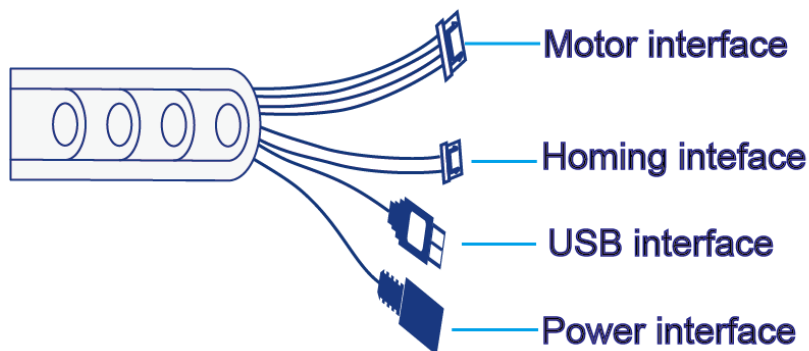

Figure 5.193 Interfaces on the other end of the wire set
Step 6 Connect the interfaces on the other end of the wire set to the power adaptor, USB interface of PC, motor interface and homing interface of the sliding rail respectively. Figure 5.193 shows the interfaces on the other end of the wire set.